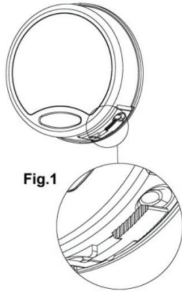

Fig.1
– Put the battery compartment back into the entry pad. Push up the latch of the battery compartment until it snaps closed, **see Fig 1.**